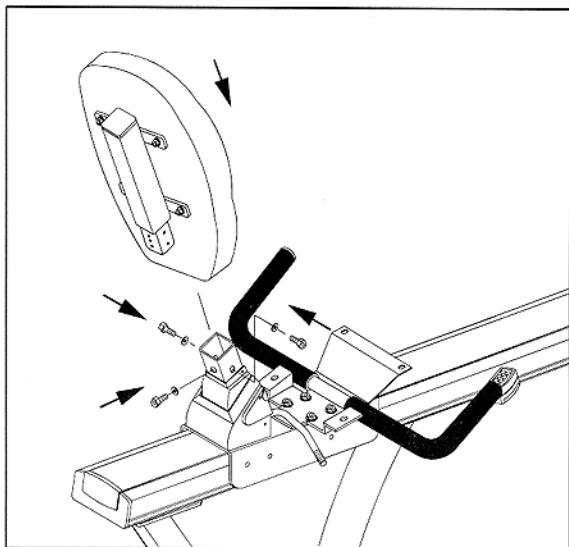

Fig.7
9. Insert the seat back into the seat post, using the 5/16" bolts and washers to secure it (see Fig.7).